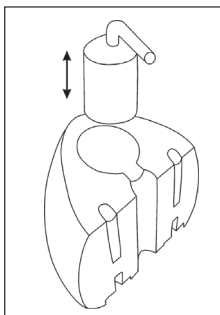

Fig 6
2. Slide out the water tank and remove the anti-cal cartridge as Fig.6.